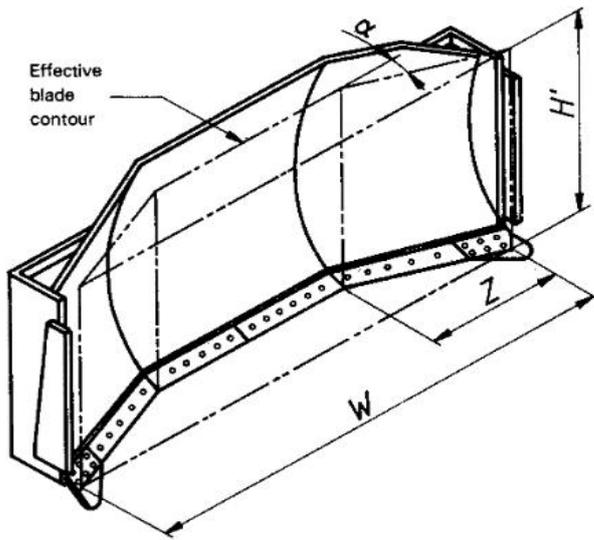

Figure 4 – Effective blade contour of semi-U- and U-blades
**3.2.4 effective blade contour** : Simplified representation of the blade face for calculating the blade capacity. It is established by intersecting planes extending vertically from the cutting edge at the GRP, with the blade in the mid-pitch position. The frontal dimensions are  $W$  and  $H'$  (see figure 4).
**3.2.5 wing angle,  $\alpha$**  : Angle, in degrees, measured at the cutting edge on the GRP with the blade in the mid-pitch position. This angle describes the orientation of the intersecting planes that establish the effective blade contour (see figure 4).
**3.2.6 wing length,  $Z$**  : Length, in metres, of the wing measured parallel to the blade width (see figure 4).